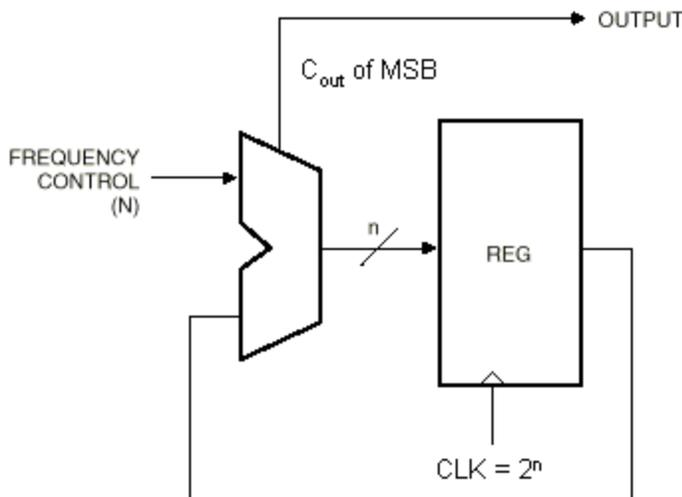

Figure 4: Accumulator-based Frequency Synthesizer
A better approach is to use an accumulator to generate the frequencies, as show in Figure 4. This results in a set of harmonic frequencies, defined by the equation:
As an example, a 26-bit (i.e., $n = 26$ in Figure 4) frequency synthesizer, clocked at 67.108864 MHz (2^{26} Hz), generates every **integer-valued** frequency up to this clock rate. Refer back to Equation 2 and make sure you understand the example just outlined before you proceed any further.
Exercise 1: Implement in VHDL the design shown in Figure 4 with $n = 5$ and a clock frequency of 64 MHz. With these values, we will be able to generate any even integer frequency up to 32 MHz – refer back to Equation 2 to convince yourself that this is right. Note that a bottom-up approach should be used.
A potential disadvantage of the scheme outlined in Figure 4 is the complexity of the adder and its effect on speed, when compared to the counter approach. However, this can be overcome through the use of pipelining. In the second exercise you should find out that pipelining the design implemented in exercise 1 increases the registered performance and allows higher frequencies to be generated.
4. The last step will be to instantiate your bit-slice.vhd component five times in another file in order to come up with a pipelined version of the accumulator-based frequency synthesizer shown in Figure 4.